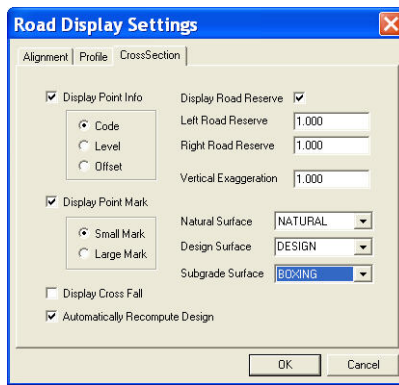

Figure 18-83. Automatically Recompute the Design for the Cross Section
- Press the **Hot Button**  , located at the bottom of the main screen. The *Road Display Setting* dialog box displays (Figure 18-83).